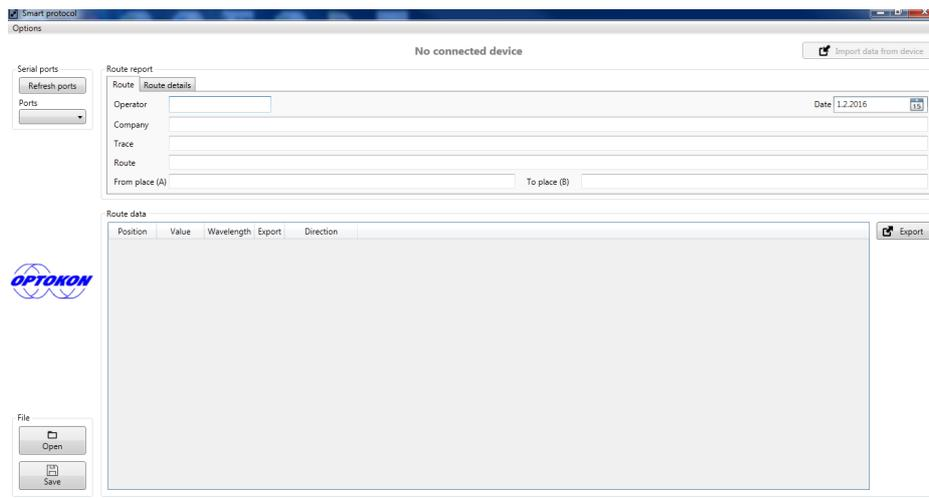

Figure 3: Smart protocol Interface
- Smart protocol 3.0 doesn't need installation, open exe file "Smart Protocol 3.0" like administrator. The screen Figure 3 will appear after the software starts up.